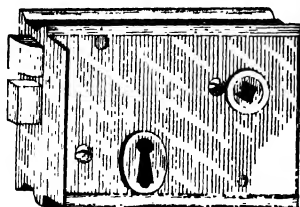

Fig. 423.—Rim Lock.
Locks for ordinary domestic work are of several kinds. Interior doors of a less thickness than 2 in. are usually fitted with a lock called a rim lock (Fig. 423), the mechanism of which is enclosed in an iron box, which is screwed on to the face of the door.
**Fitting Rim Locks on Doors.**—Rim locks (Fig. 423) are the ordinary cheap locks fixed on bedroom doors. First let the flange (the projecting lip of the face-plate) into the edge of the door, and then, holding the lock in its position, mark through the keyhole and the spindle-hole with a scribing tool, or bradawl, on to the face of the door. Remove the lock, bore the keyhole top and bottom right through the door with a bit, so that the shoulder of the key passes comfortably through, and finish the work with a keyhole saw or small chisel. The shoulder, or stop, abuts against the lock plate, and keeps the key in its right position to enter and turn. If the keyhole is too large, it does not guide the key exactly to the hole in the lock, but allows the key to strike the lock in a very annoying fashion. Bore the hole for the